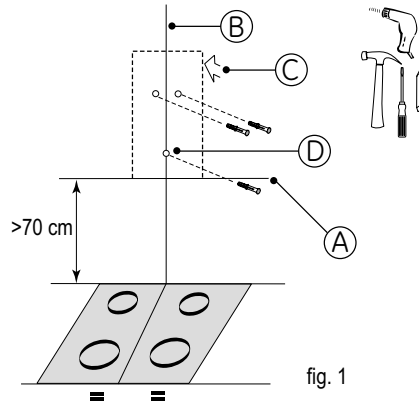

fig. 1
- Draw an horizontal line 70 cm minimum from the cooktop (A/fig. 1).
- Draw a vertical line (B/fig. 1) on the wall, centered against the cooktop and that extends from the horizontal line drawn in the previous step (A) to the ceiling.
- Place the drilling template (C/fig. 1) on the wall.
- The location marked (D) corresponds to the anti-lift screw of the hood.
- Adjust the anti-lifting screw (D/fig. 1).